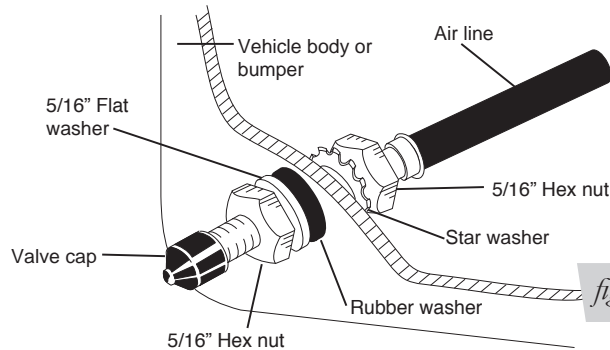

fig. 11
- 4. Place a 5/16" nut and star washer on the air valve. Leave enough of the inflation valve in front of the nut to extend through the hole and have room for the rubber washer, flat washer, and 5/16" nut and cap. There should be enough valve exposed after installation—approximately 1/2"— to easily apply a pressure gauge or an air chuck (fig. 11).